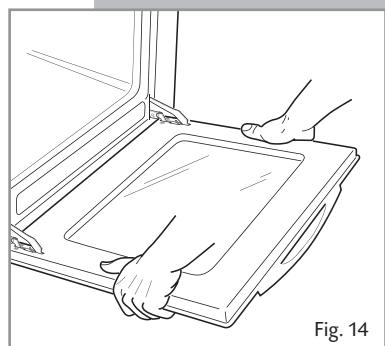
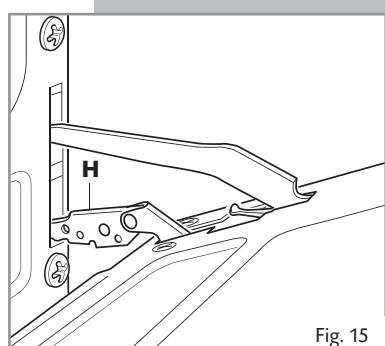

Fig. 14
Fig. 15
- Grip the door (as indicated in fig. 14) and, while closing it, release the two hinges as shown in fig. 15.
- Grip the door with your hands placed near the hinges and raise the levers "H" with your forefingers (fig. 15).